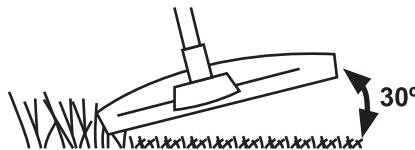

Fig. 17a
5. Hold the trimmer head just above the ground at an angle of approximately 30°. (See Fig. 17a)